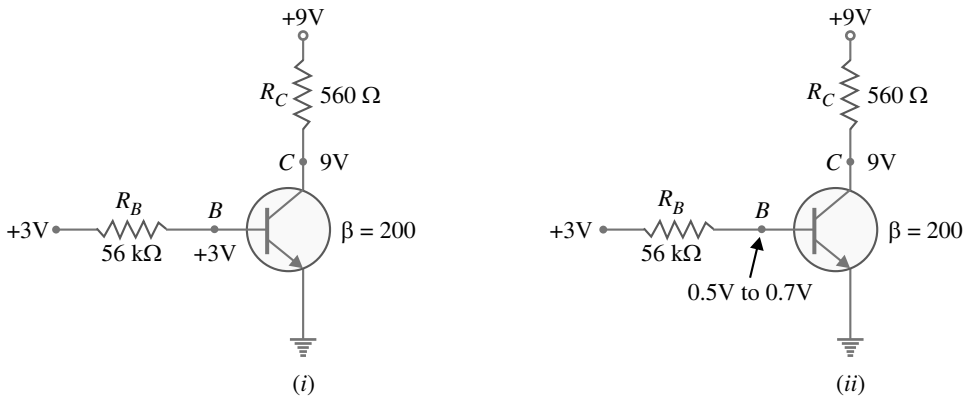

Fig. 7.15
**Example 7.13.** What fault is indicated in (i) Fig. 7.15 (i) and (ii) Fig. 7.15 (ii)?
(i) The obvious fault in Fig. 7.15 (i) is that the **base is internally open**. It is because 3 V at the base and 9 V at the collector mean that transistor is in cut-off state.
(ii) The obvious fault in Fig. 7.15 (ii) is that **collector is internally open**. The voltage at the base is correct. The voltage of 9 V appears at the collector because the 'open' prevents collector current.